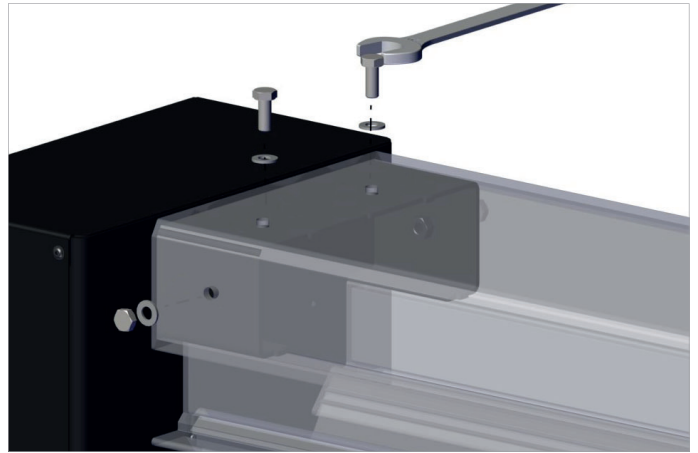

Fig. 6.3.2 Mounting the motor compartment to the rail
- Mount the motor compartment to one end of the rail, and secure with 4x M8x20 bolts and 4x M8 washers using wrench 13 (½ in.). Refer to fig. 6.3.2.